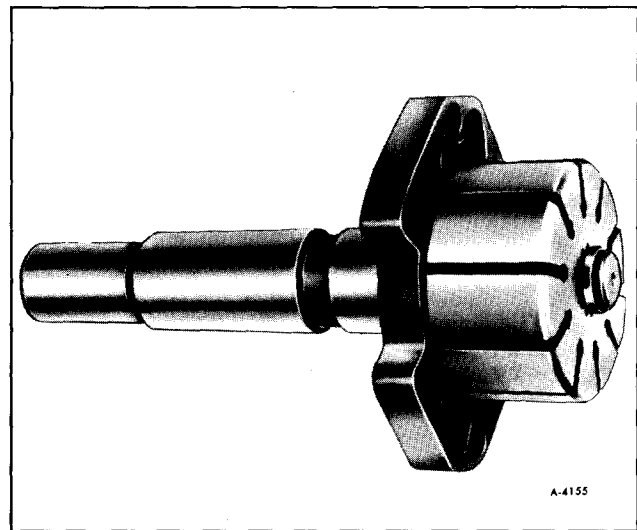

Figure 18—Shaft With Thrust Plate and Rotor
4. Insert shaft through thrust plate and rotor, and install new snap ring on shaft. Open the snap ring just enough to slide over the end of shaft. (Rotor must have counter sunk side toward thrust plate). (figure 18).